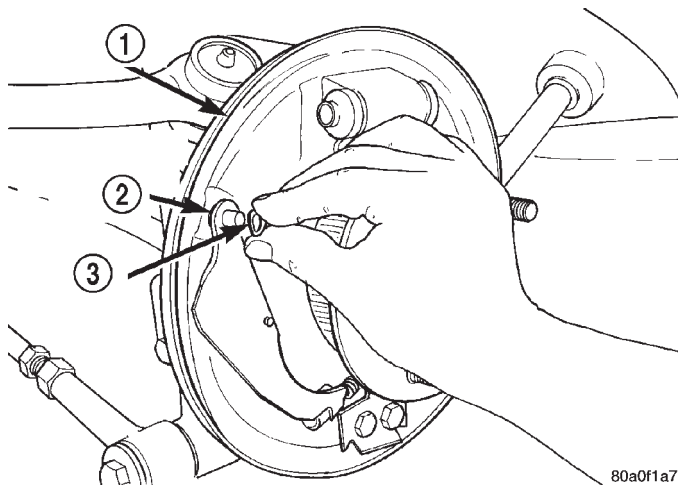

Fig. 113 Wave Washer Installation
(2) Install the wave washer on the pin of the park brake actuating lever (Fig. 113).